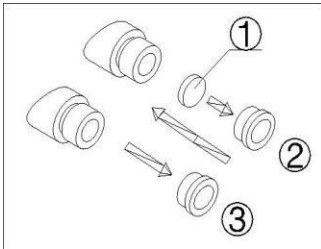

Fig.5
- 1) Turn and remove the mounting ring② from the eyepiece. (Fig.5)
- 2) Clean the eyepiece micrometer① and mount it to the mounting ring with the inscription side downward.
- 3) Gently twist the mounting ring with the eyepiece micrometer into the eyepiece till tightening② securely.
- 4) To remove the eyepiece micrometer, take down the mounting ring③ by twisting and take out of the micrometer, and then wrap it.